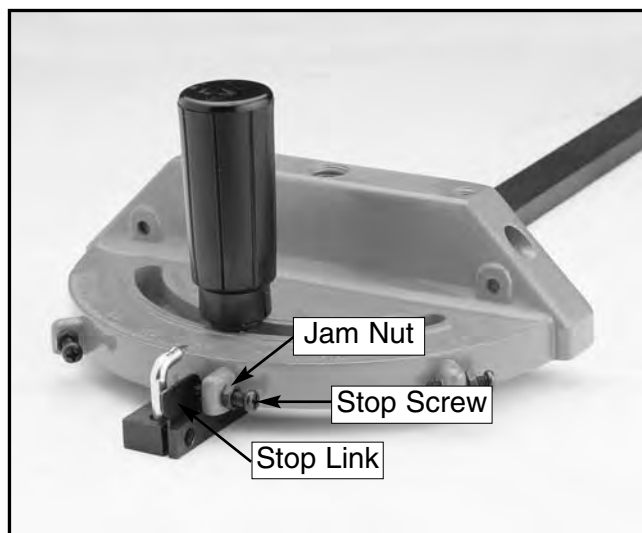

Figure 49. Miter gauge adjustment points.
3. With the stop link in the up position, loosen the jam nut and adjust the stop screw shown in **Figure 49** until it is seated against the stop link.